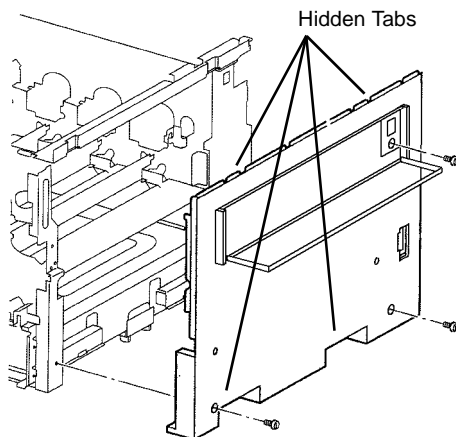

Figure 2 Removing Right Cover
4. Remove Right Cover (Figure 2).
- b. Remove Screws (3).